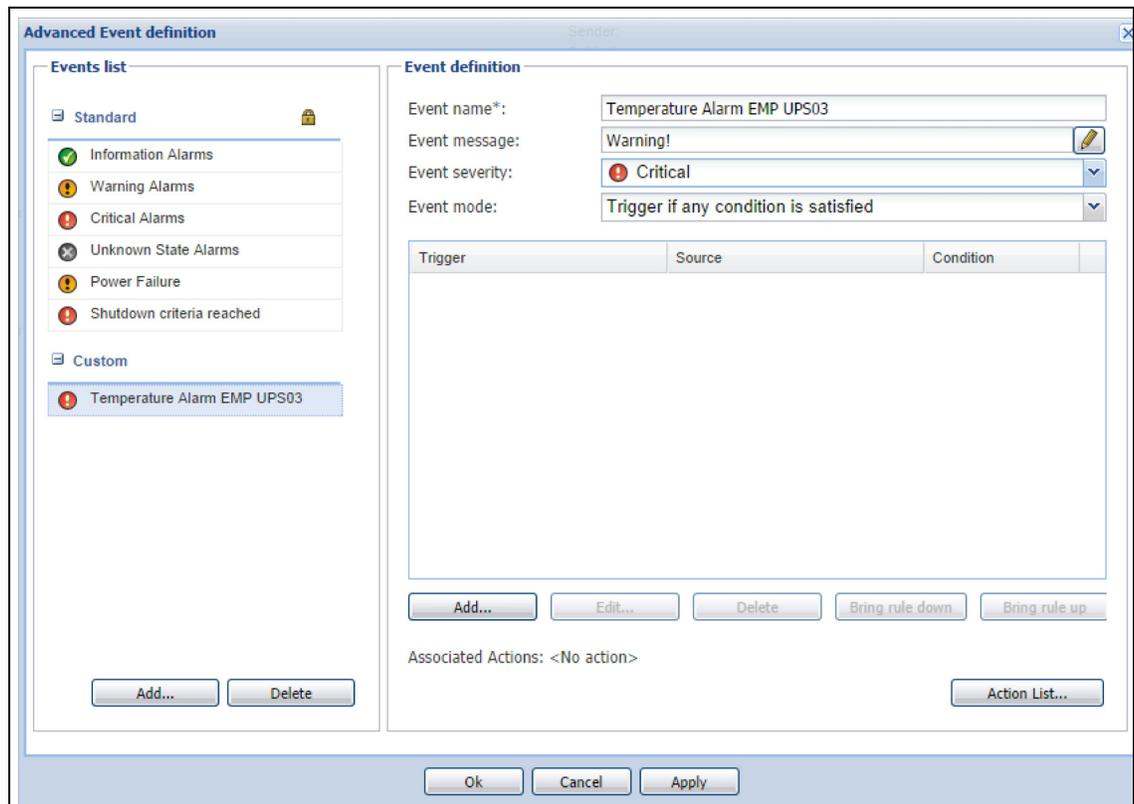

Figure 177. Advanced Event Definition
3. Add a custom event (see Figure 177).